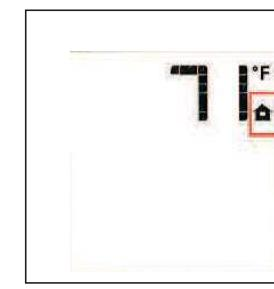

Figure 58. Burner shut-down
- Press the ON/OFF Key. The display will show only the room temperature and icon. At the same time, the Receiver will deactivate the call for heat and the burner will shut down. Fig. 58. A single "beep" from the Receiver will confirm reception of the command.